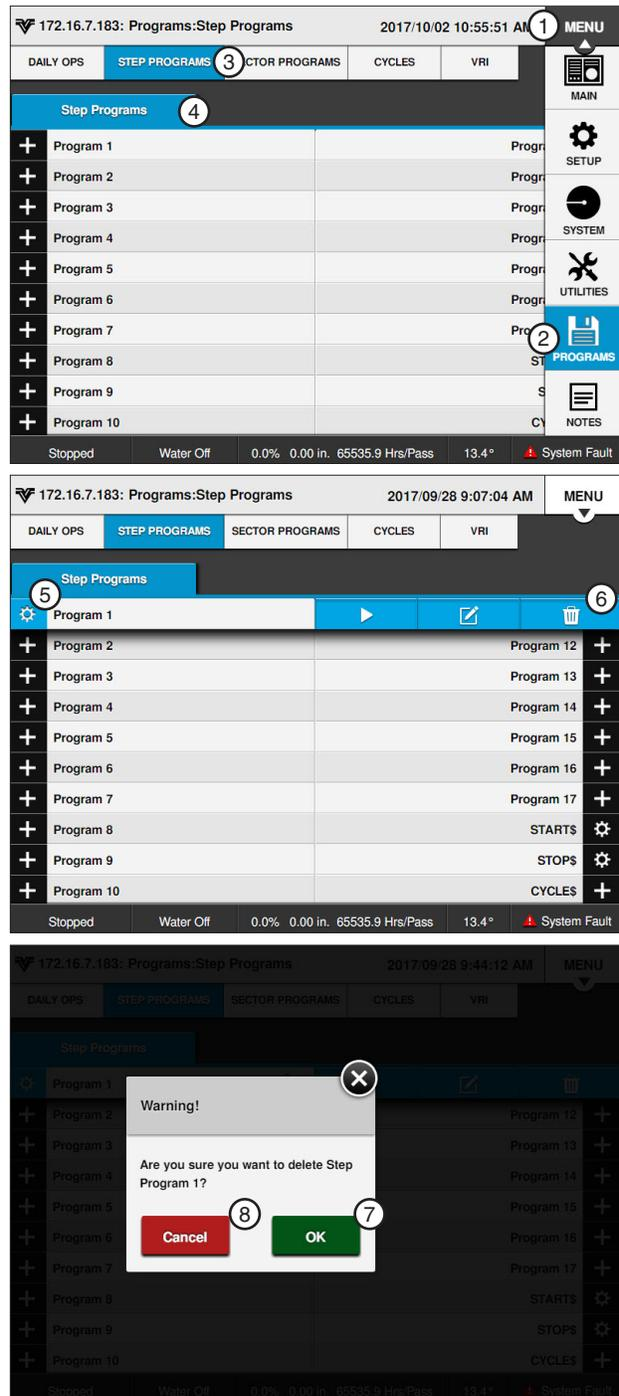

Figure 102-1 1. Menu 2. Programs 3. Step Programs 4. Step Programs 5. Settings 6. Delete 7. OK 8. Cancel
2. Push the **Settings** button corresponding to the preferred program number as shown in Figure 102-1.
4. When prompted with the Delete Step Program screen, push **OK** to finish deleting. Refer to Figure 102-1.